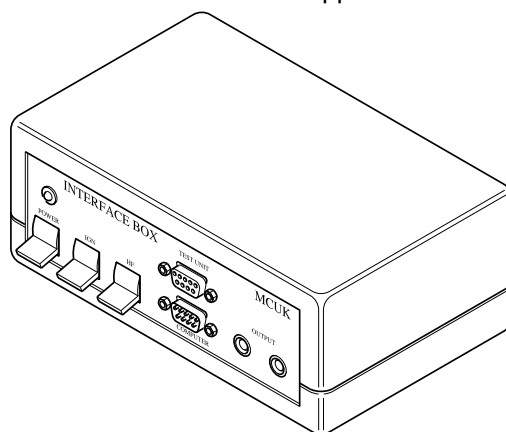

Figure 1: Interface unit I 001
1. Interface Unit part no I 001 figure 1